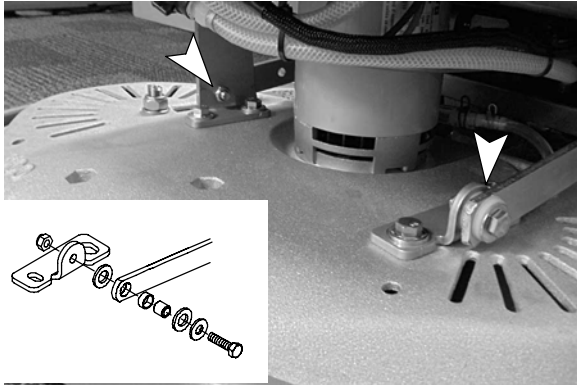

FIG. 65
- Using a 13 mm wrench, disconnect the scrub head lift arms from the scrubhead mounting brackets as shown (Figure 65).